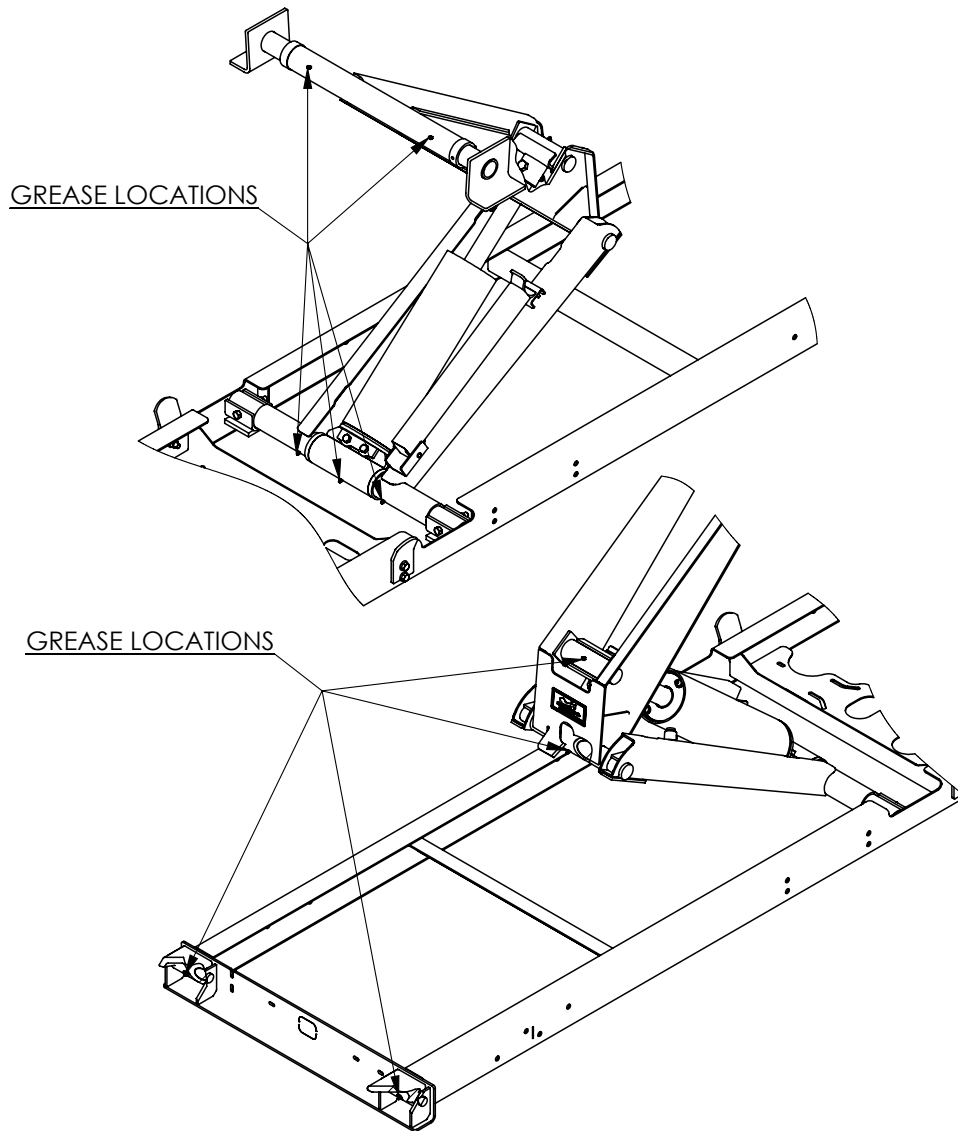

Figure 15
12. Install and grease the fittings as shown in **Figure 15**.
Grease all hoist and rear hinge grease fittings every 100 cycles or every two months. Some grease fittings are in hard to find locations - Refer to **Figure 15** for all grease fitting locations.